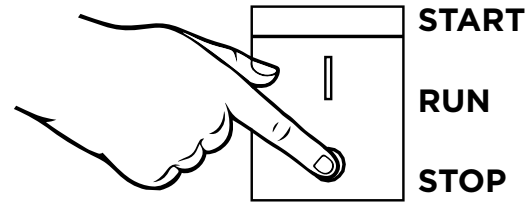

Figure 17 - Move engine switch to STOP
3. Position the engine control switch to **STOP** (see figure 17). If you plan to store the generator after use, turn the fuel shutoff valve to the **OFF** position and allow the fuel to be consumed from the carburetor.